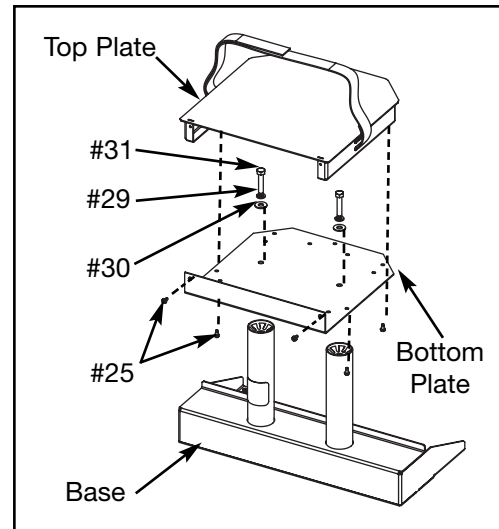

Figure 1
- A. Locate the projector shelf (#11), six screws (#25), two split lock washers, 5/16" (#29), two flat washers, 5/16" (#30) and two bolts, 5/16-18 x 1.50" (#31). See Figure 1.